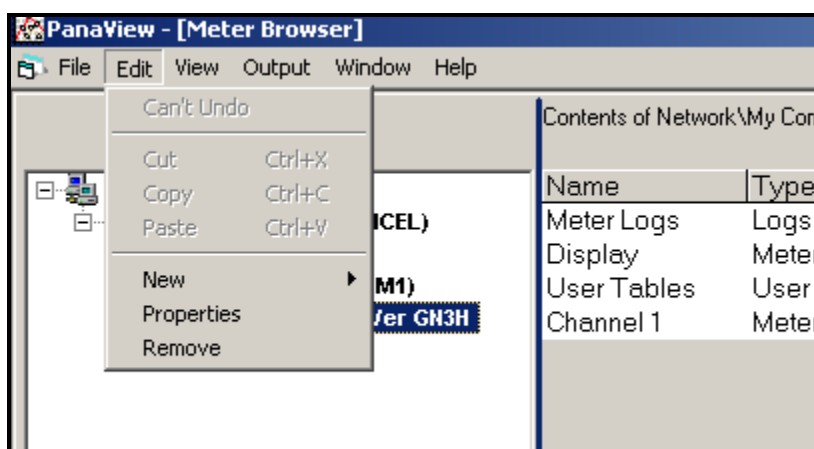

Figure 25: The Properties Option in the Edit Menu
2. Open the "Edit" menu and select the "Properties" option, as shown in Figure 25 below.